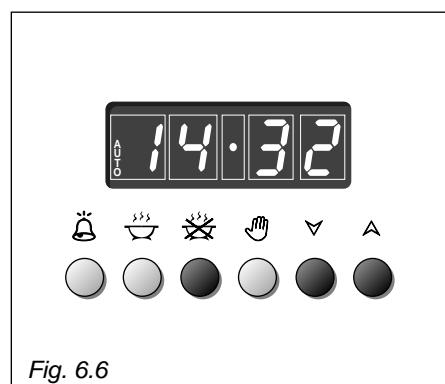

Fig. 6.6
2. Set the time you need the food to stop cooking by pushing the  button (the cooking time already added to the clock time will appear), and the  button (fig. 6.6); if you pass the desired time you can go back by pushing the .